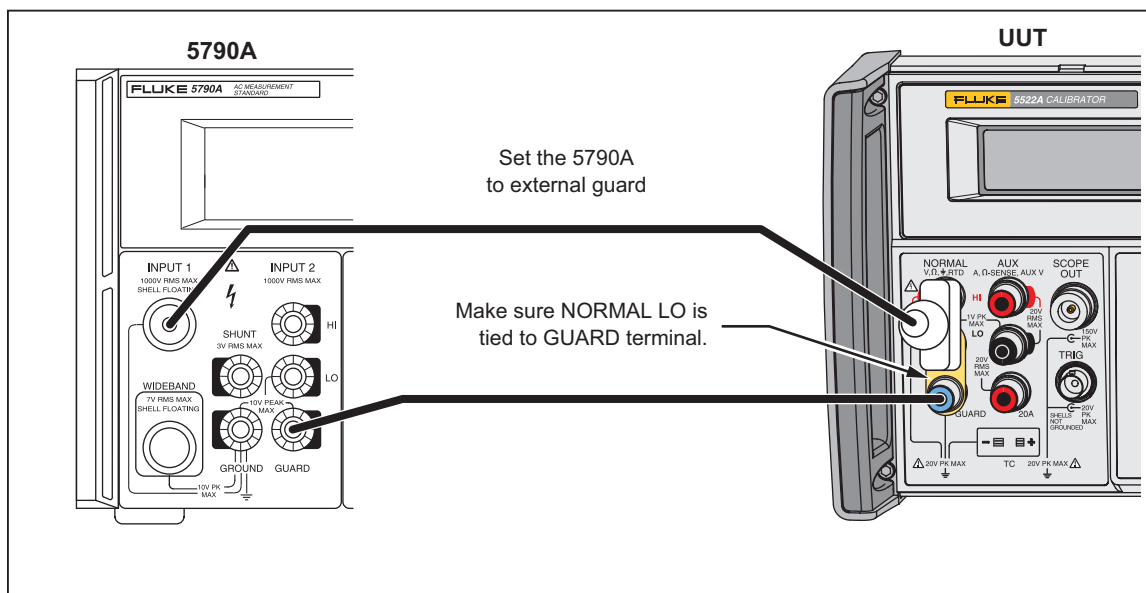

Figure 3-3. AC Volts Calibration Connections
1. Measure the Calibrator output with Input 1 of a Fluke 5790A AC Measurement Standard. Use a Type N to dual banana adapter as Figure 3-3 shows.